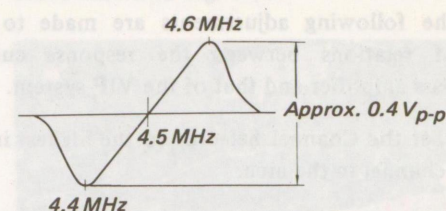

Fig. 4-21. SIF alignment curve
8. Repeat the steps in Table 4-2 to produce the waveform shown in Fig. 4-21.